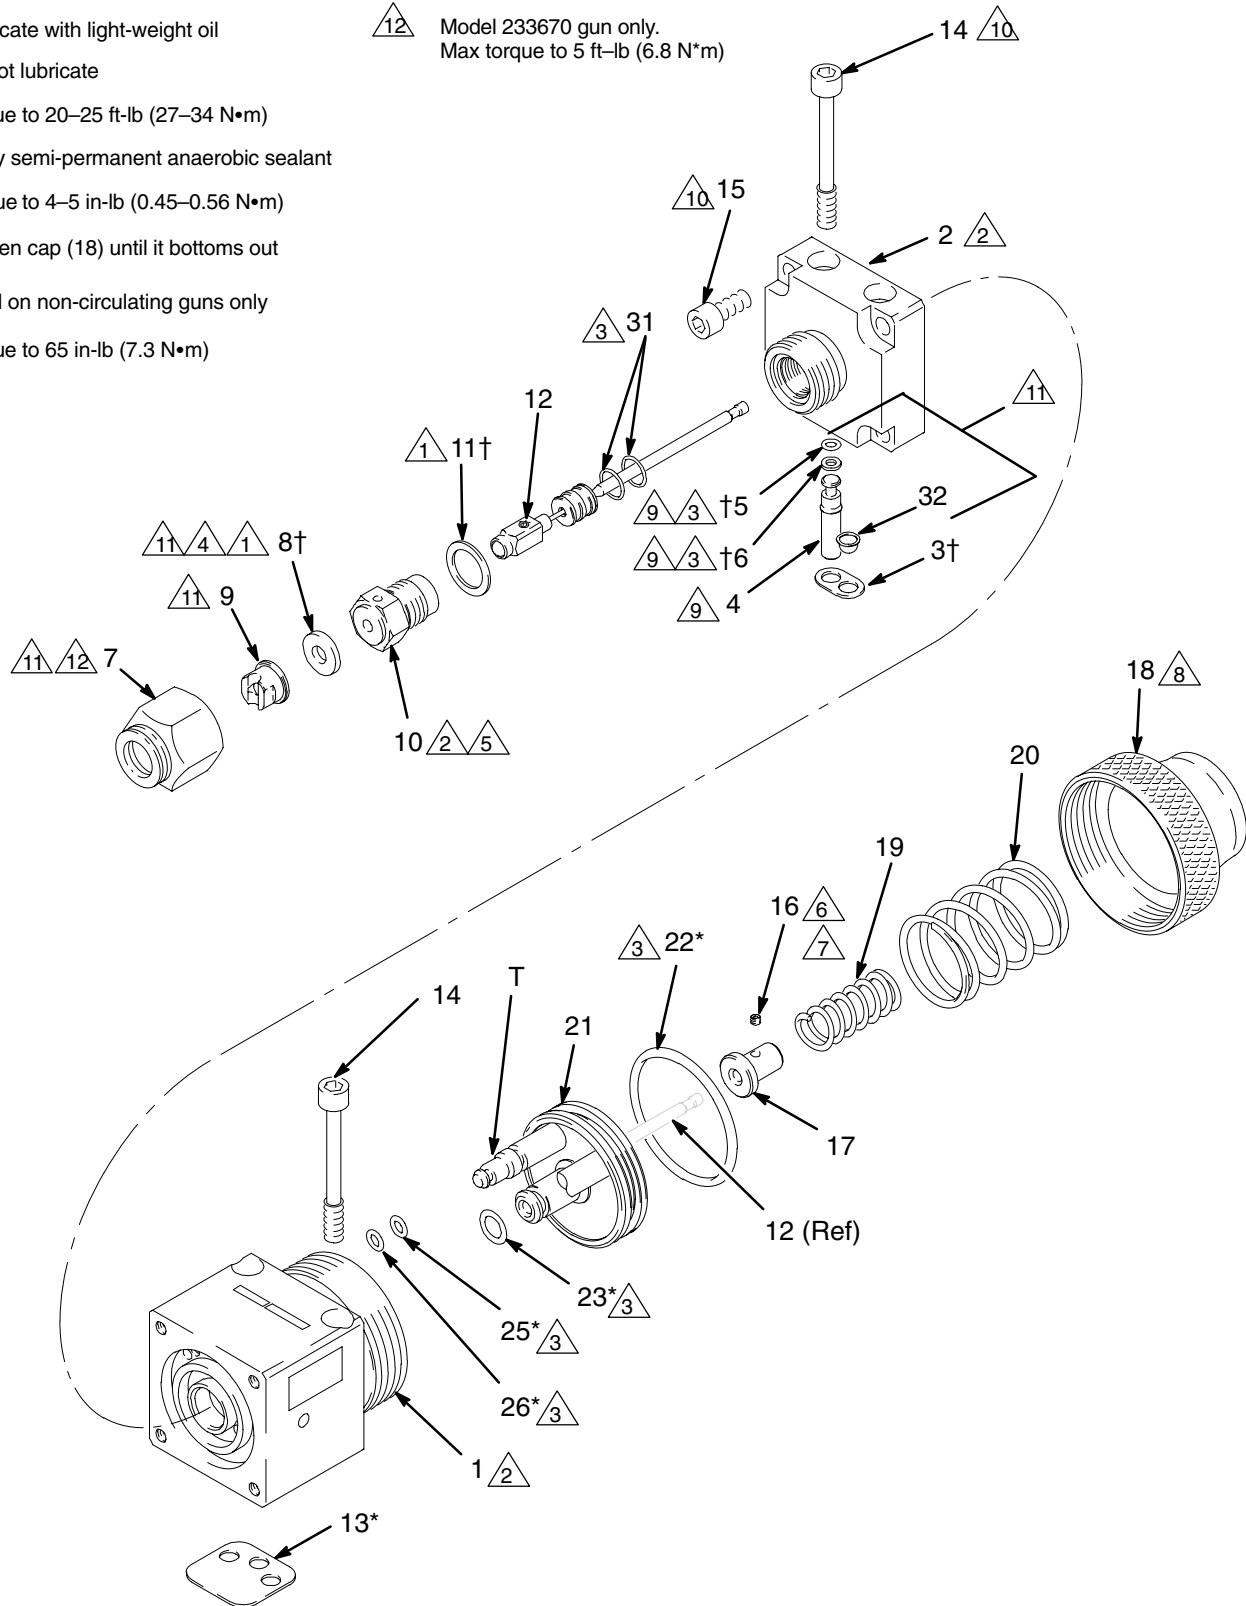

Fig. 9
- *Non-circulating Paint Guns:* Lubricate the back-up (6†) and o-ring (5†) and install them on the fluid outlet port plug (4). Install the plug in the fluid outlet port of the fluid housing (2). See Fig. 9.
- *Circulating Paint Guns:* Reinstall the filter (32) in the fluid inlet port and the gasket (3) in the fluid housing (2).
- *Sealant Gun:* Reinstall gasket (3).
2. Install the o-rings (22*, 23*) on the piston (21). Install two o-rings (25*, 26*) on each of the piston stems (T). Lubricate all the o-rings, the piston, and the piston stems.
3. Insert the piston (21) into the piston housing (1).
4. Remove the protective paper from the sticky side of the gasket (13*) and adhere the gasket to the bottom of the piston housing (1), making sure the three holes in the gasket are properly aligned with the matching holes in the housing.
5. Install the fluid housing (2) on the piston housing (1). Torque the four screws (15) to 65 in-lb (7.3 N•m).